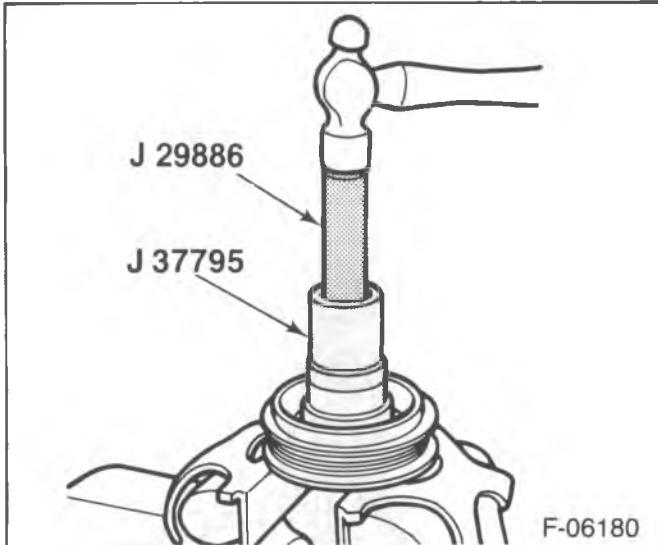
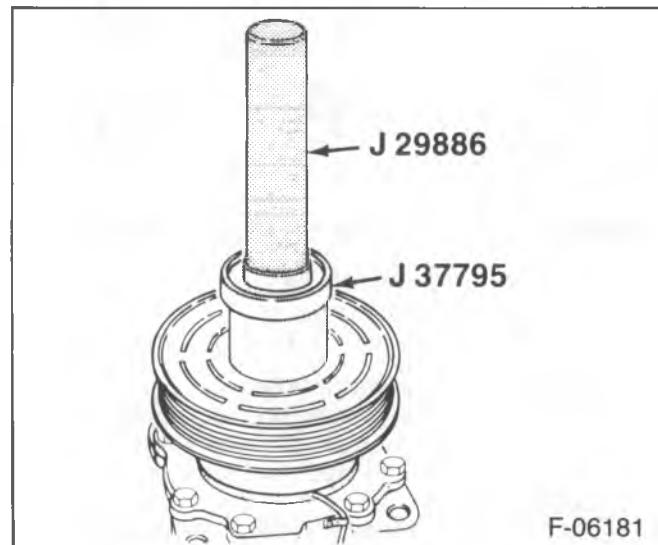

Figure 14—Installing the Rotor Bearing
Figure 15—Installing the Rotor Pulley
3. Bearing to the rotor with J 37795 and J 29886 (figure 14).
5. Rotor pulley (5) to the front housing hub and align.
- Place J 29886 into the ring (figure 15).
7. Shaft key (27).